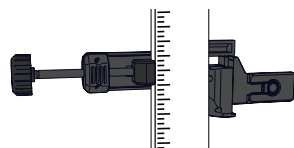

Figure 25
3. Press and hold the clamp release button to close the clamp knob onto the grade rod. Turn the clamp knob to further tighten the clamp until secure. (Figure 25)